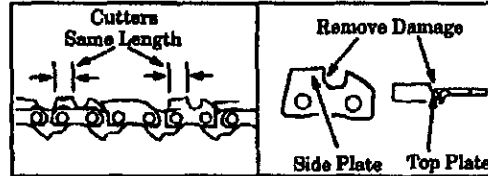

Figure 33
- c.) File from inside toward outside of cutter, straight across on forward stroke in one direction only. Use 2 or 3 strokes per cutting edge. Figure 33.
- d.) Keep cutter length the same. Figure 33.
- e.) File enough to remove any damage to the cutting edges (side plate and top plate) of the cutter. Figure 33.